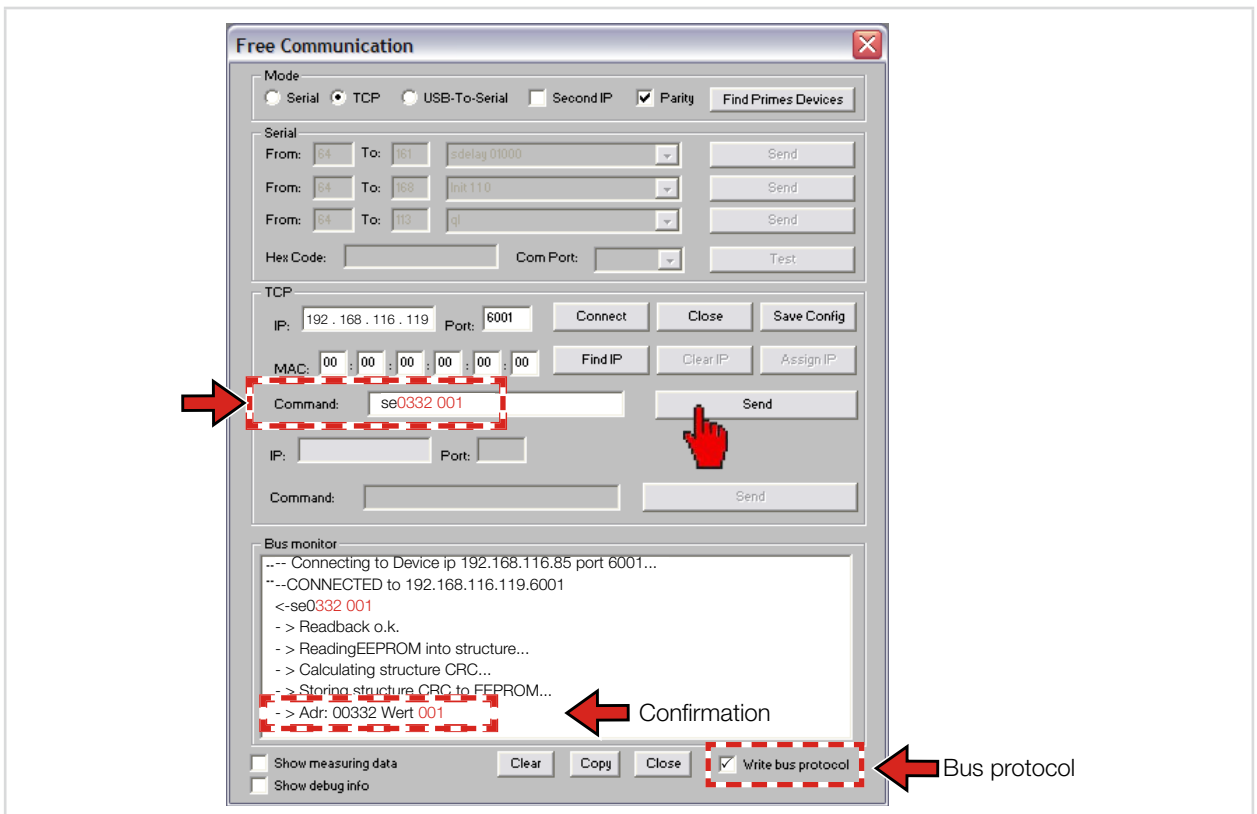

Fig. 9.4: Enable DHCP in the **Free Communication** dialog window
8. Click on the **Send** button and wait for the confirmation on the **Bus monitor** (see Fig. 9.4 on page 47 „- > Adr:0332 Wert: 001“)